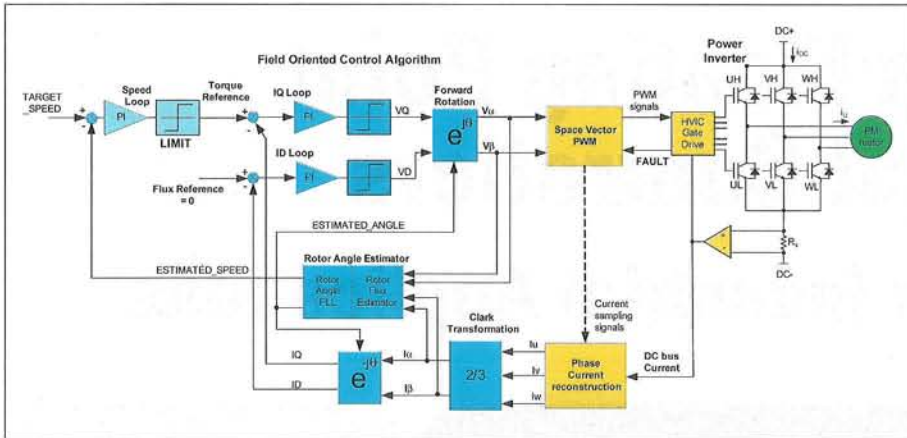

Figure 1. Sensorless field-oriented control of a PM AC motor
To accurately and effectively drive a variable speed motor in an application such as a refrigerator or a washing machine, it is important to be able to obtain information on rotor position. The most obvious way to do this is through the use of additional sensing components. However, the impact that this has on both reliability and cost actually makes the approach impractical. As a result, designers are looking to sensorless techniques. Fortunately, advances in motor control technology are now enabling high efficiency in three-phase PM AC drives without the need for position sensors. An example of such a system is illustrated in figure 1. The three-phase power inverter on the right hand side of the diagram controls the flow of current from the DC source to the PM motor windings, while the space-vector PWM unit calculates the timing signals for the power transistors, which then provide the three-phase sinusoidal voltages to the motor.
As figure 1 shows, the key element of the control circuit is that required to implement a field-oriented control (FOC) algorithm. This algorithm, which is commonly used in industrial drive systems, calculates the motor voltages and currents necessary to deliver the desired speed and torque, with the highest motor efficiency. FOC uses vector transformations to resolve the AC motor-winding currents into two quasi-DC current components driving motor flux and torque. The transformations include a vector rotation ($e-j$) as a function of the rotor flux angle to derive a current component aligned with the rotor flux (ID) and a quadrature component that generates motor torque (IQ). The